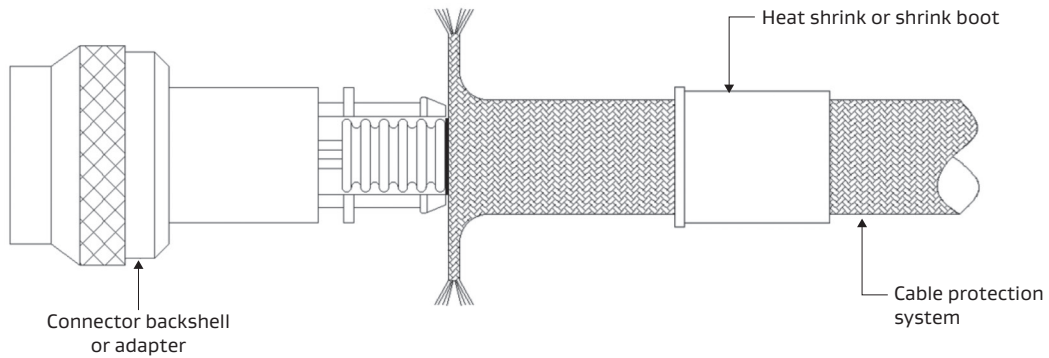

Figure 12: Sliding the connector backshell or adapter
7. Slide and adjust the connector backshell or adapter onto the clear or black plastic tubing and stop when it meets the outer braided jacket (Figure 12).